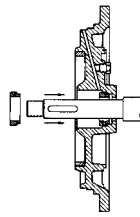

Fig.: 7
6. Montar la parte fija del nuevo cierre.(fig.: 7)
6. Mount the fixed part of the new mechanical closing. (fig.: 7)